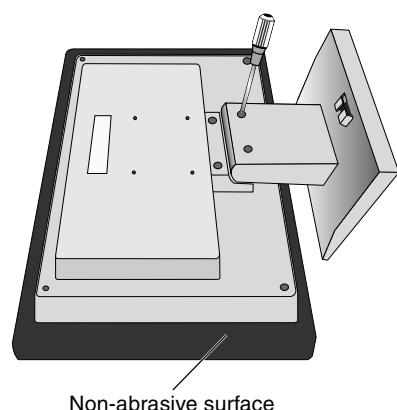

Figure R.1
2. Place monitor face down on a non-abrasive surface (**Figure R.1**).
3. Remove the 2 screws connecting the monitor to the stand and lift off the stand (**Figure R.1**)
1. Place monitor face down on a non-abrasive surface (**Figure R.1**).